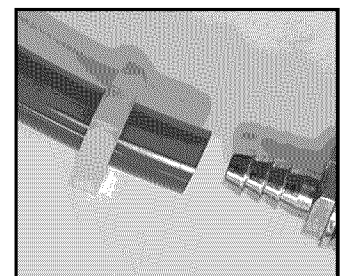

Fig. 13
8. Fasten the other end of the red air line to the keg coupler using the remaining snap clamp (Fig. 13).